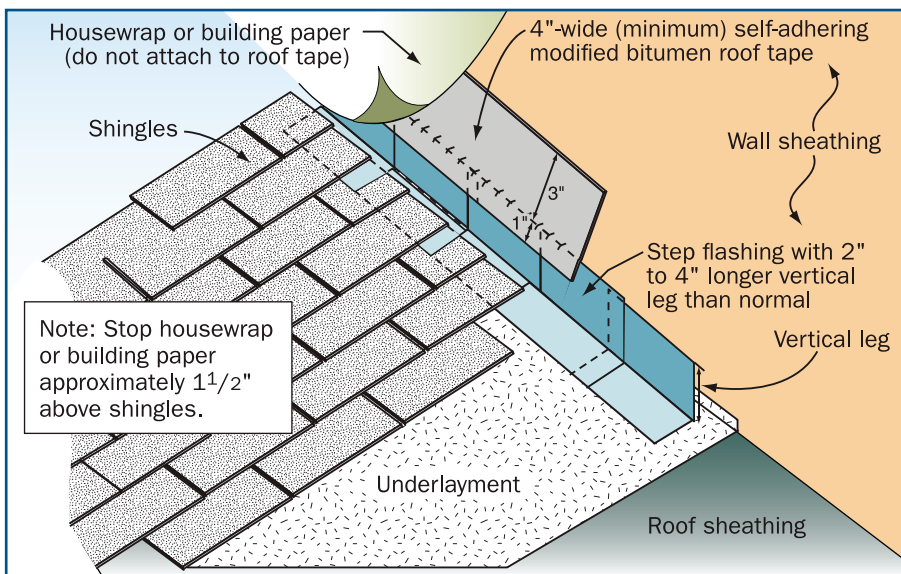

Figure 1
- At roof-to-wall intersections (see Figure 1):